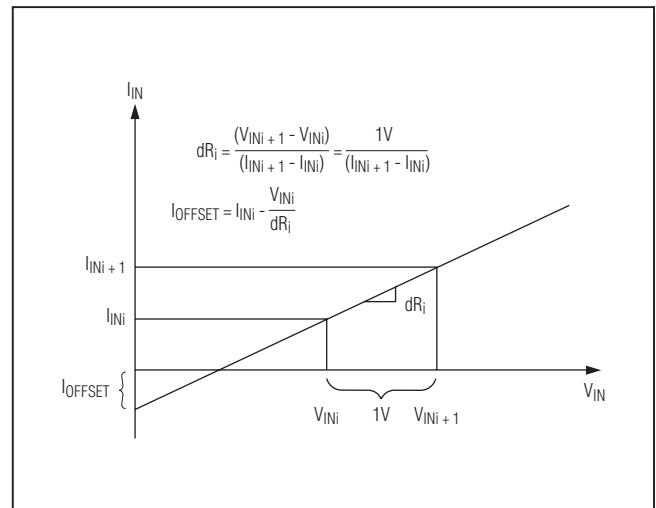

Figure 2. Effective Differential Resistance and Offset Current
**Note 4:** The input offset current is illustrated in Figure 2.
**Note 5:** Effective differential input resistance is defined as the differential resistance between  $V_{DD}$  and GND, see Figure 2.